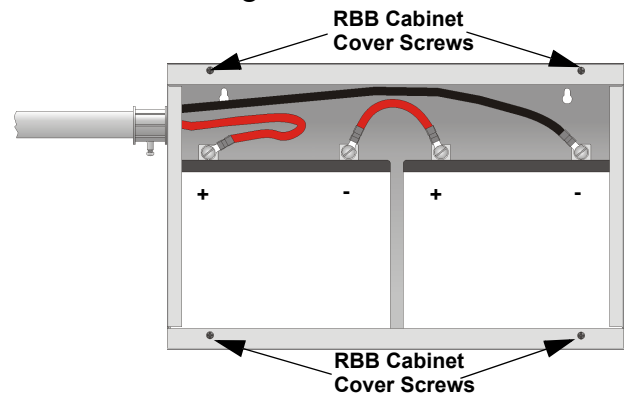

Figure 3: Battery Connections in the RBB Cabinet
3. Run extended battery cable from control panel cabinet through conduit to RBB cabinet. See Figure 3.
Note: Figure 3 is an example of how the wire connections can be routed. However, any other cabinet knock-outs (on either the main control panel or the RBB cabinet), that are not previously being used may be utilized to connect conduit between the two cabinets.
4. Connect battery leads to the backup battery terminals. See Figure 3.
5. Insert the RBB cover screws into the cover mounting holes. See Figure 3.